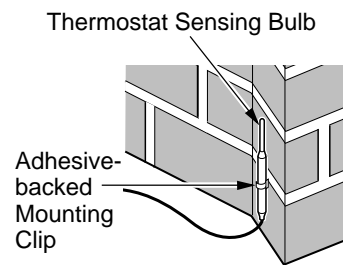

Figure 43 - Locating Thermostat Sensing Bulb on Masonry Fireplace
3. The thermostat sensing bulb may be located to the lower right front side of fireplace. Determine location of sensing bulb, but do not mount sensing bulb until step 5. If you have a masonry fireplace, see Figure 43 for location.